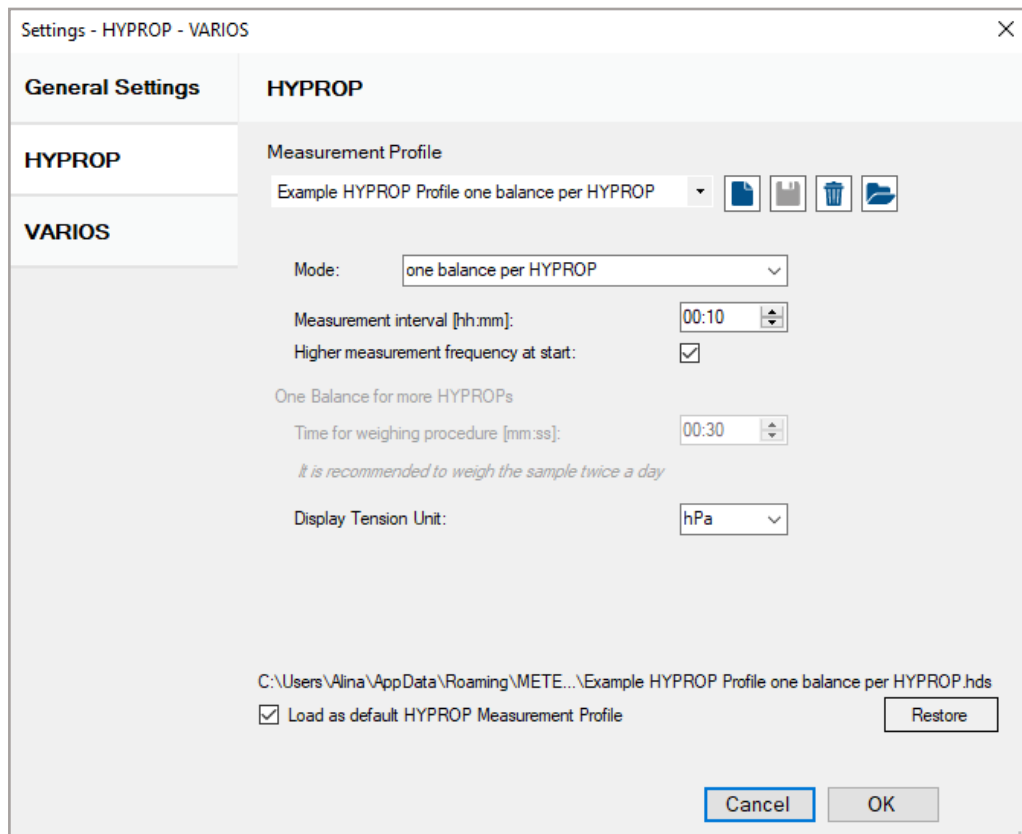

Figure 65 Example HYPROP profile one balance per HYPROP
1. One balance per HYPROP (Figure 65)